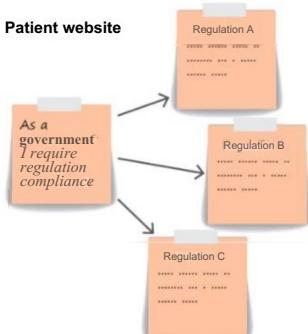

FIGURE 7.15 Slicing a compound story
- Story decomposition level A given feature is usually sliced (decomposed) into two or more stories; as this is done more details about the individual stories emerge. Stories can be compound, complex, or both. Figures 7.15 and 7.16 gives examples of each in the patient portal case study.